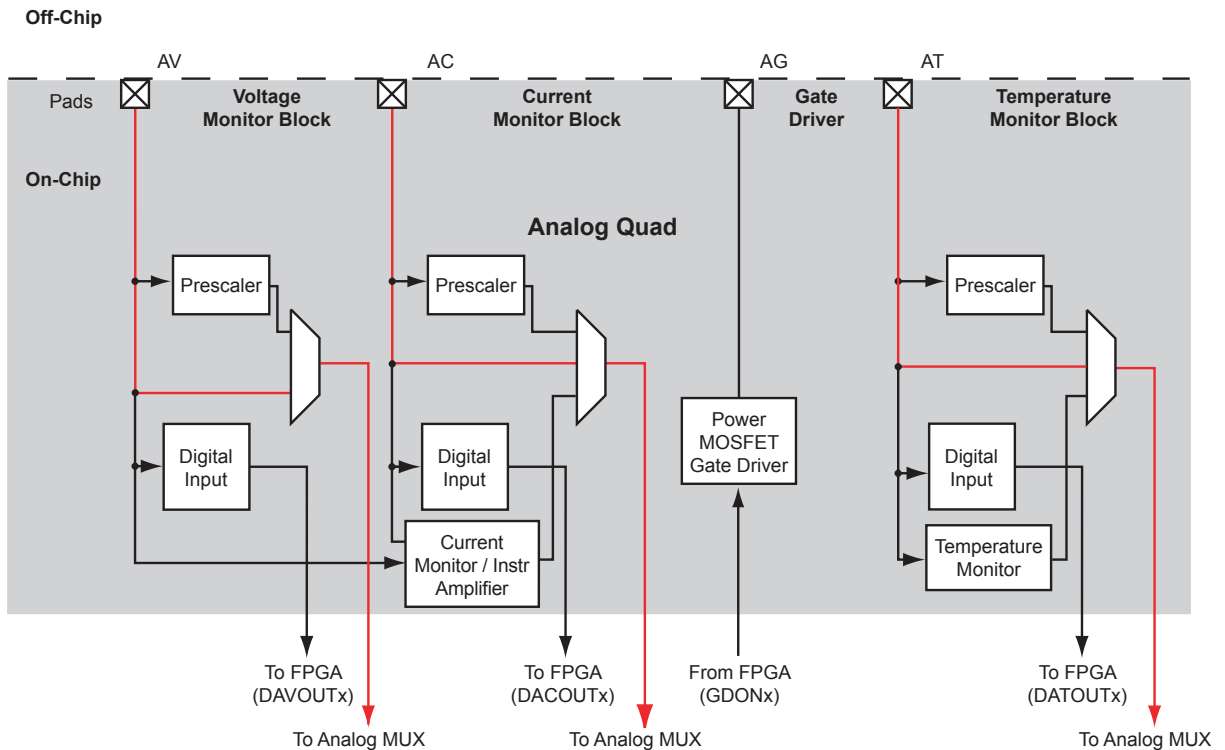

Figure 2-66 • Analog Quad Direct Connect
The Fusion Analog Quad offers a robust set of voltage-monitoring capabilities unique in the FPGA industry. The Analog Quad comprises three analog input pads— Analog Voltage (AV), Analog Current (AC), and Analog Temperature (AT)—and a single gate driver output pad, Analog Gate (AG). There are many common characteristics among the analog input pads. Each analog input can be configured to connect directly to the input MUX of the ADC. When configured in this manner (Figure 2-66), there will be no prescaling of the input signal. Care must be taken in this mode not to drive the ADC into saturation by applying an input voltage greater than the reference voltage. The internal reference voltage of the ADC is 2.56 V. Optionally, an external reference can be supplied by the user. The external reference can be a maximum of 3.3 V DC.